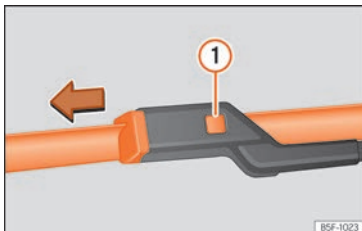

Fig. 44 Changing the windscreen wiper blades
- Press and hold release button » **Fig. 44** ❶ and pull gently on the wiper blade in the direction of the arrow.